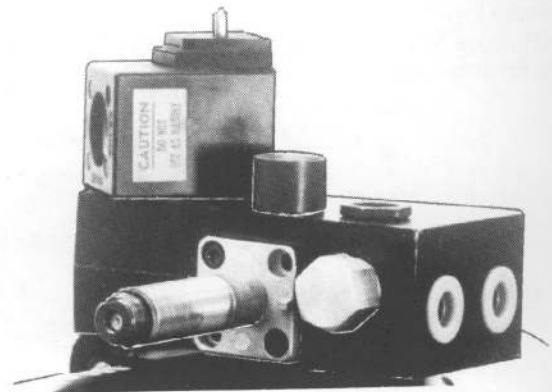

Figure 2-13
6. Install cartridge valve, torque to 10-15 lb-ft. See Figure 2-13.